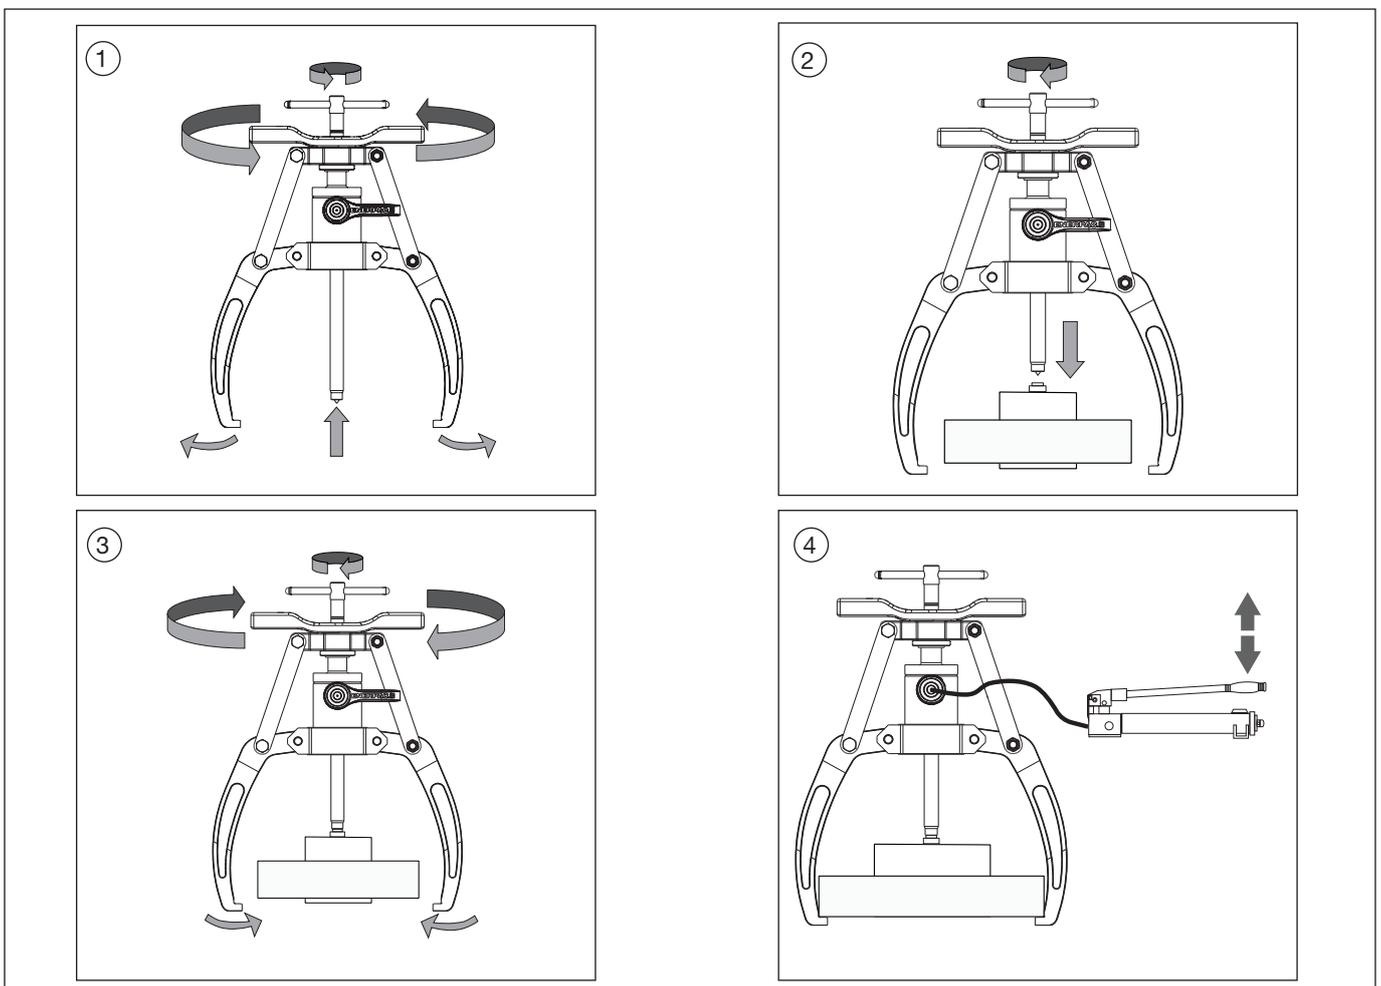

Figure 6, Puller Installation Steps
1. Rotate the spindle to adjust the spindle height up or down. Rotate the handle to increase or decrease the jaw opening. Adjust the jaws and spindle to allow the puller to be mounted onto the workpiece. Refer to Figure 6, views 1 through 4 during the following steps.